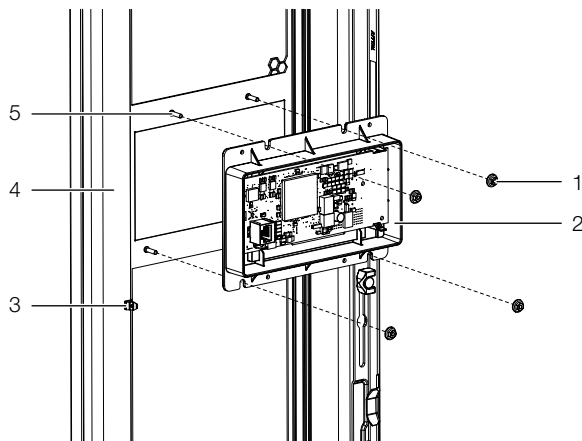

Fig. 60: Inserting and fastening the display
- Push the display onto the studs from the inside until it rests against the door front (fig. 60, item 3) of the Liquid Cooling Package.